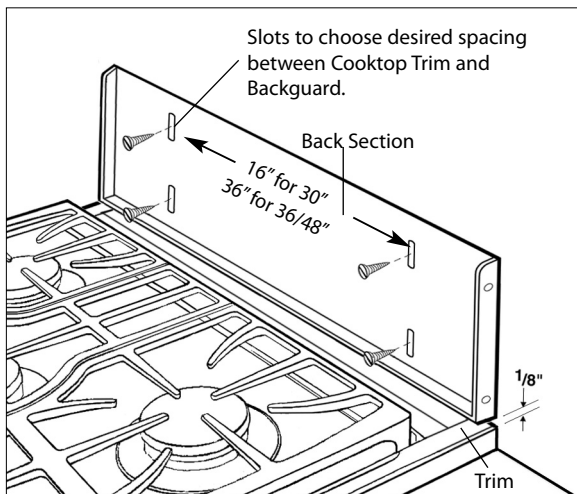

Fig.01
2. After unpacking all backguard system parts, locate the Back Section 1/8" above and centered over the Trim attached to the cooktop.* Secure Back Section to wall with the appropriate fasteners (not supplied)(fig. 01).